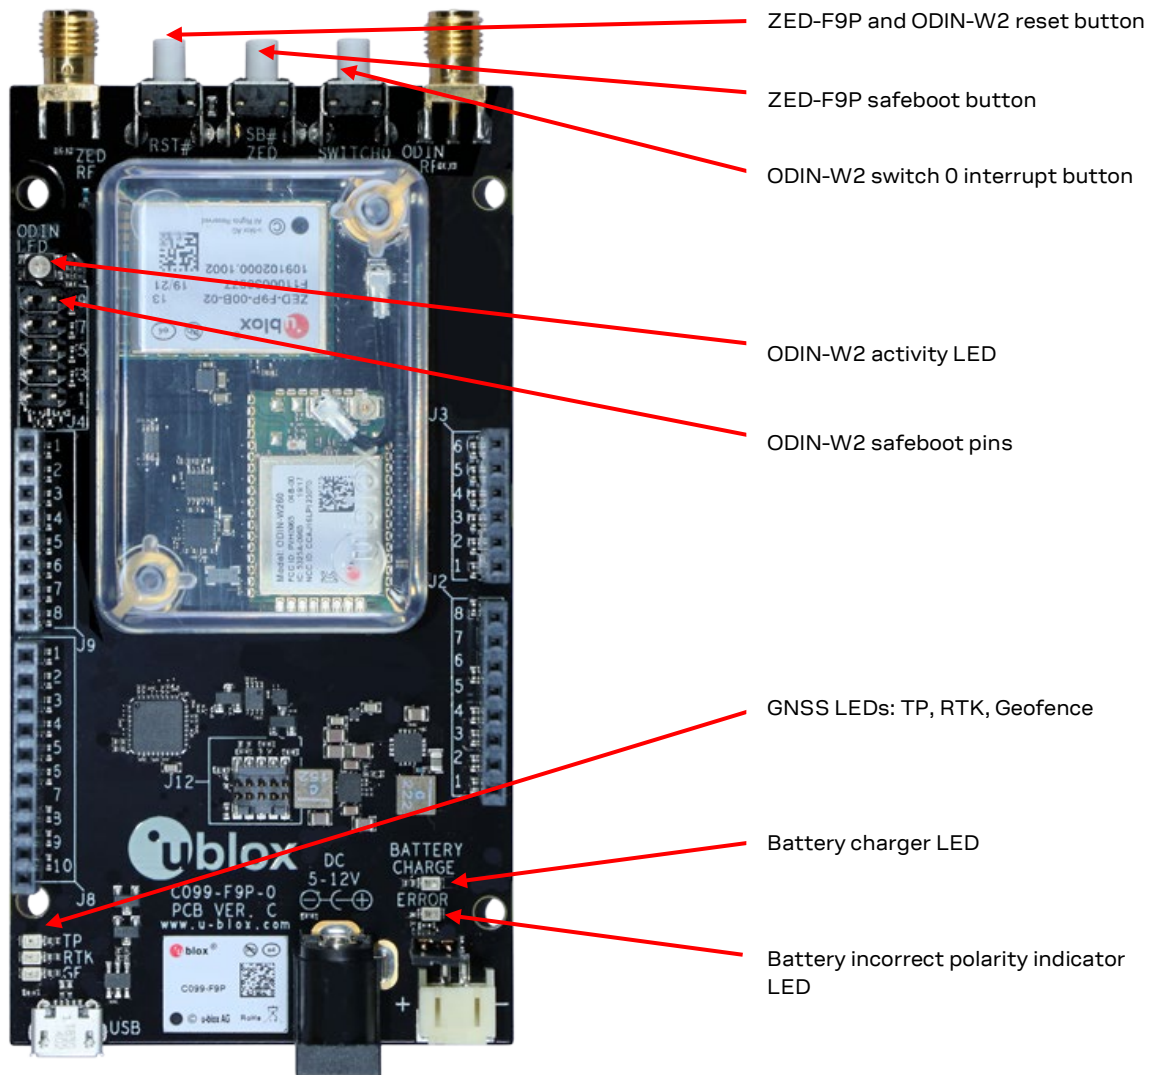

Figure 6: Switches and LEDs
- Switches and LEDs – Figure 6.
For use-case scenarios where non-wireless data link is needed the ODIN-W2 can be disabled. In order to disable the ODIN-W2, connect the safeboot jumper which forces the ODIN-W2 into safeboot mode during the device start-up. See Figure 6: Switches and LEDs to locate the safeboot pins.